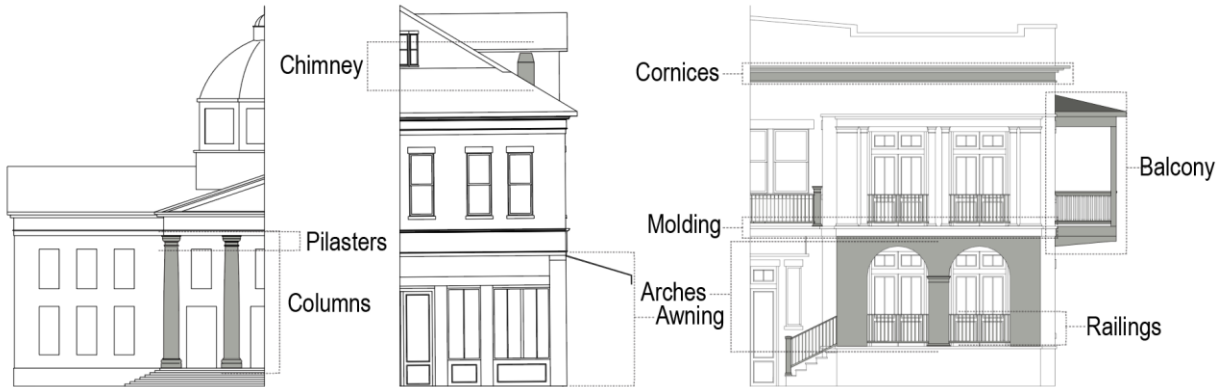

Figure 22: Architectural Elements
(6) Architectural Elements.
- a. All architectural elements and detailing, including but not limited to cornices, moldings, columns, pilasters, balconies, chimneys, railings, exterior lighting, arches, and awnings, shall be consistent with the buildings architectural style (Figure 22).